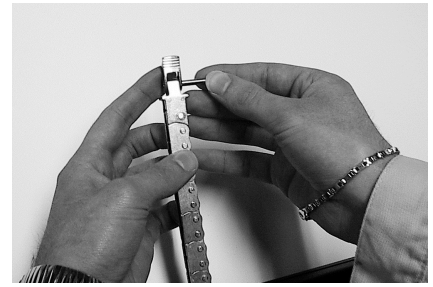

Figure 5
- G. Complete assembly of the chain terminal with the rapid release hook inserted onto the pin  $\varnothing 4 \times 32$  (provided) in median position (Fig. 5).